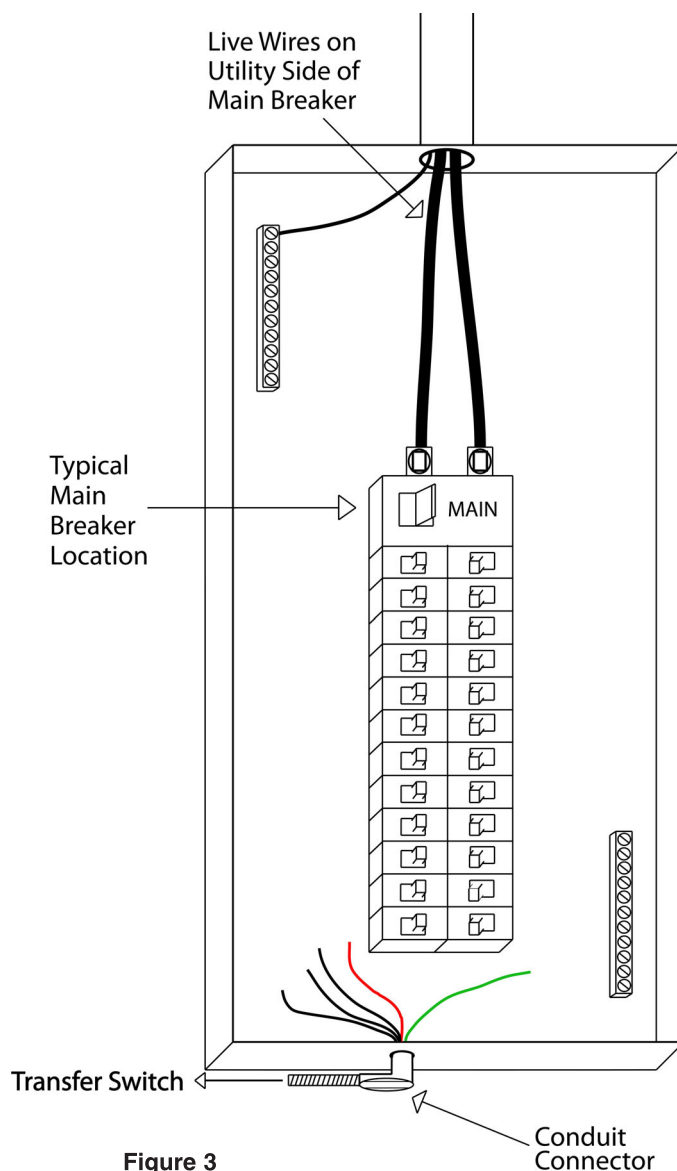

Figure 3
2. Turn off the main utility breaker (Figure 3).